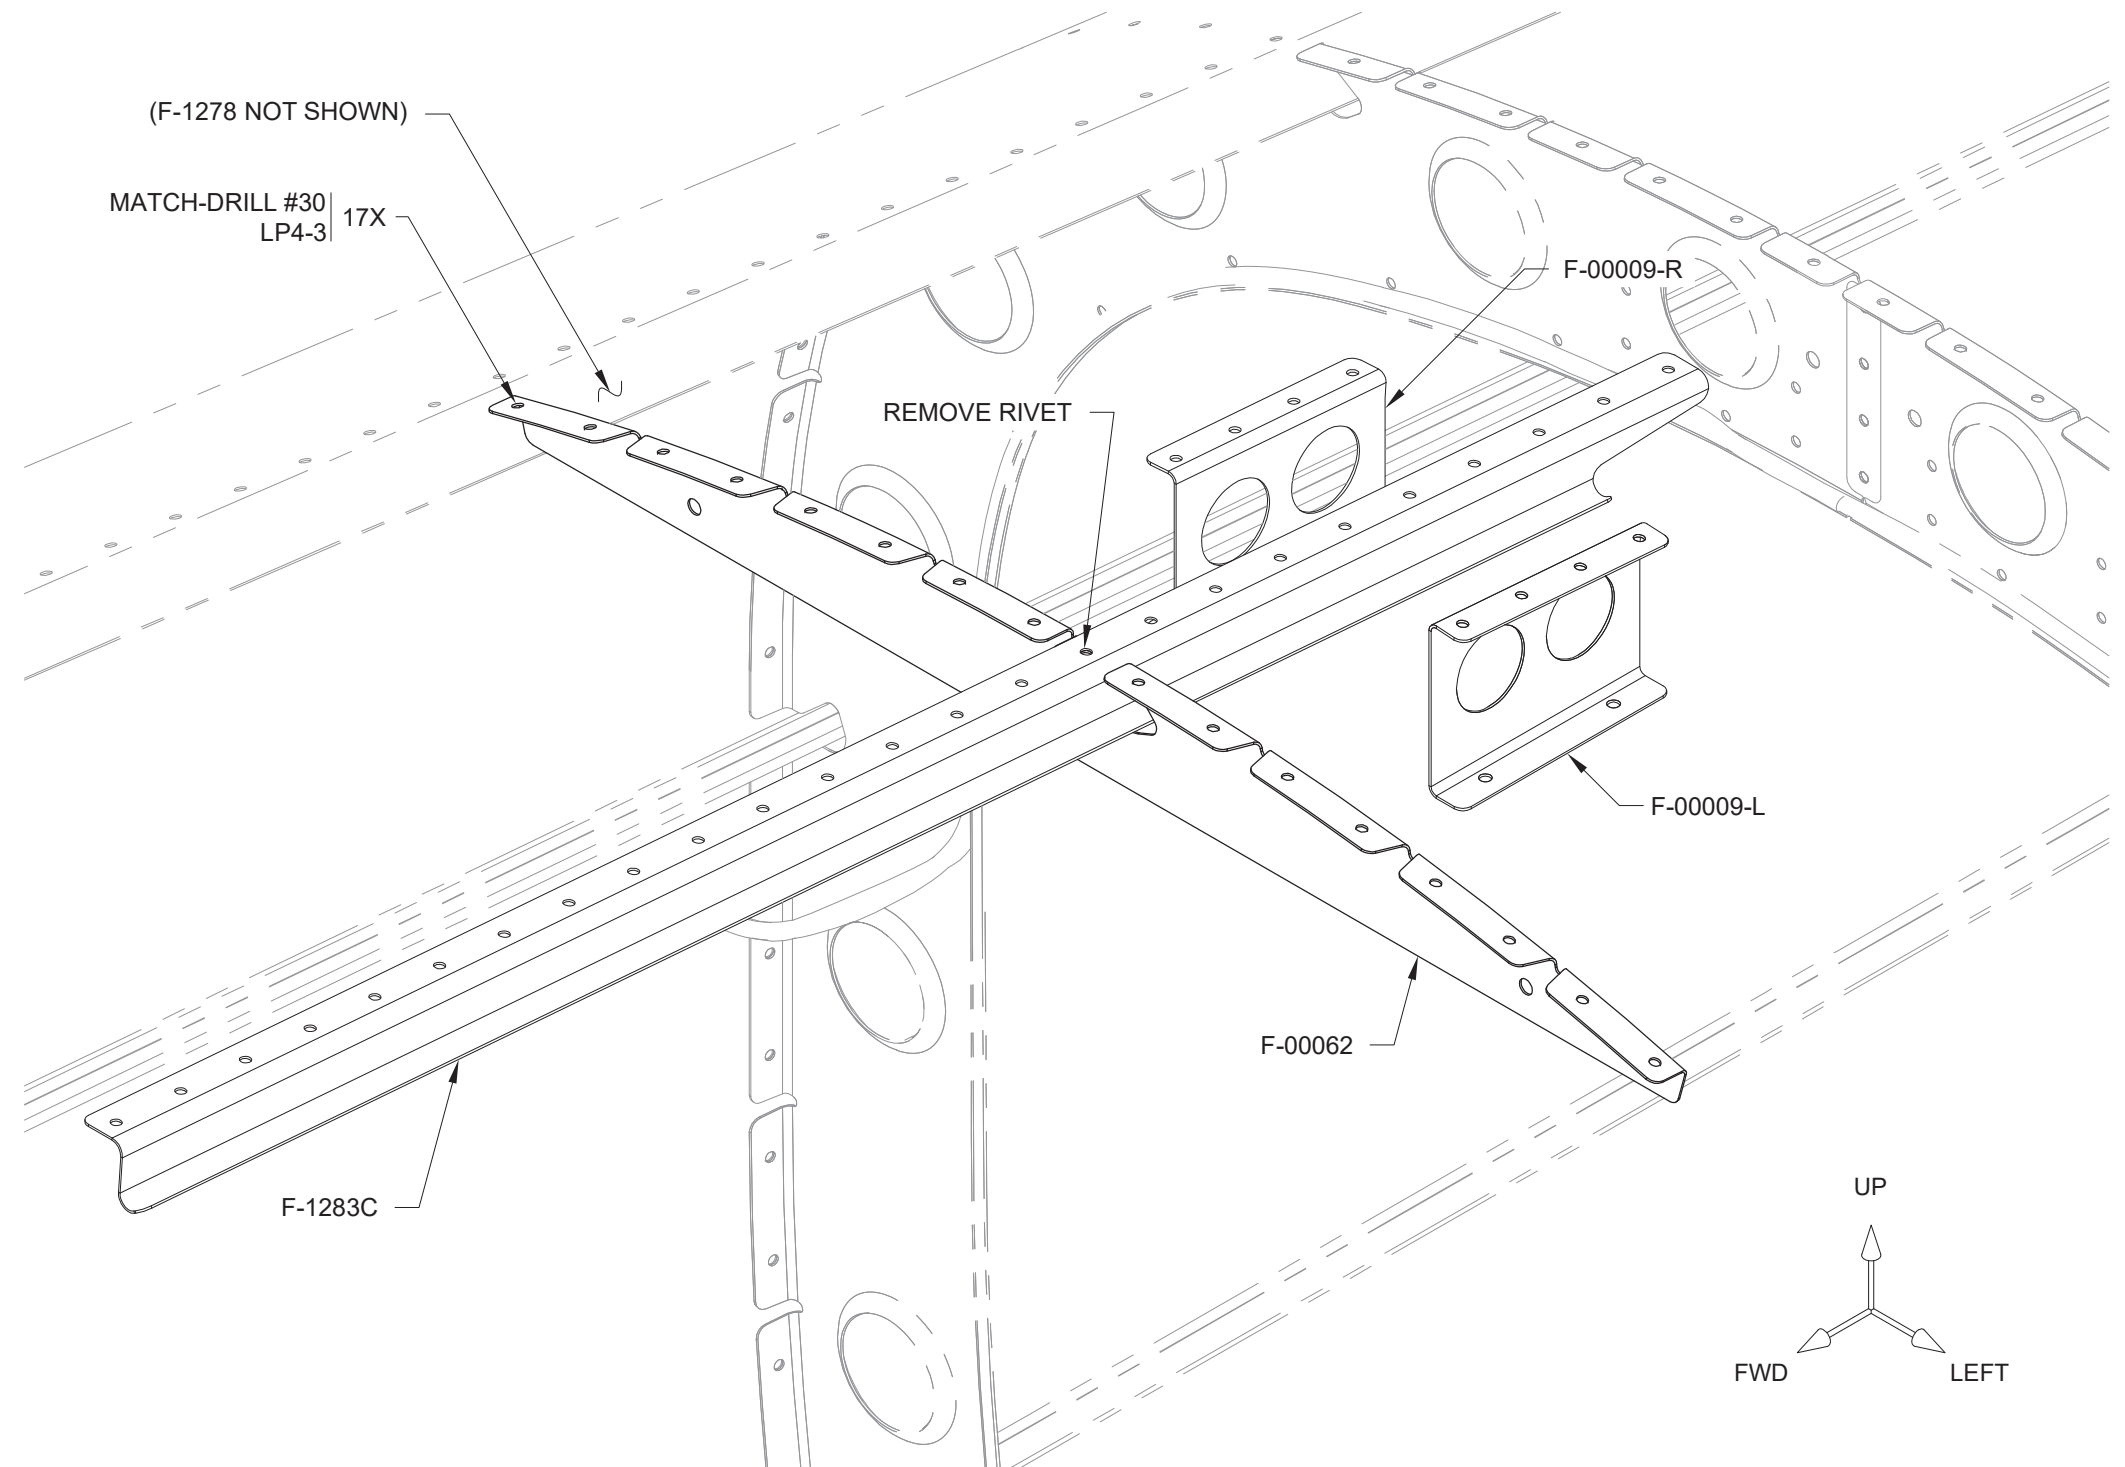

FIGURE 1: INSTALLING THE ADAHRS STIFFENER
Step 4: Rivet the F-00062 to the F-1283C and F-1278 from the outside of the fuselage. See Figure 1.
Step 1: Install the FLF-00007 into the SV-ADAHRS-200 as shown in Figure 1.